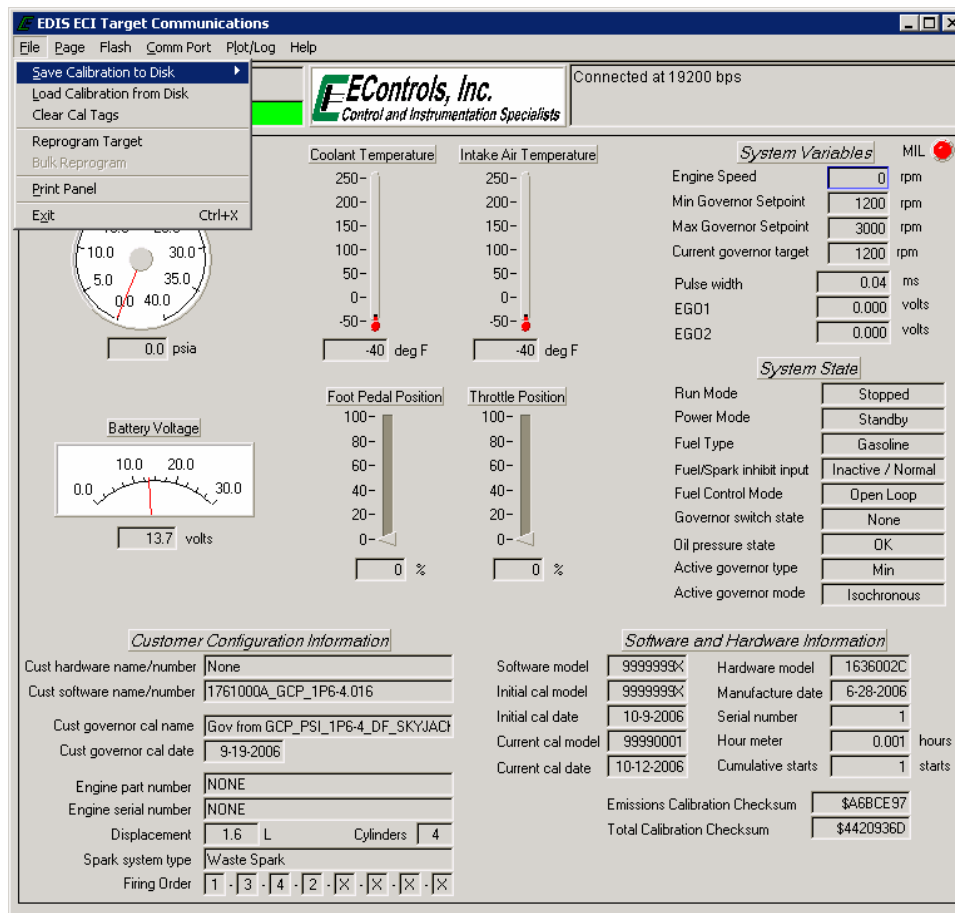
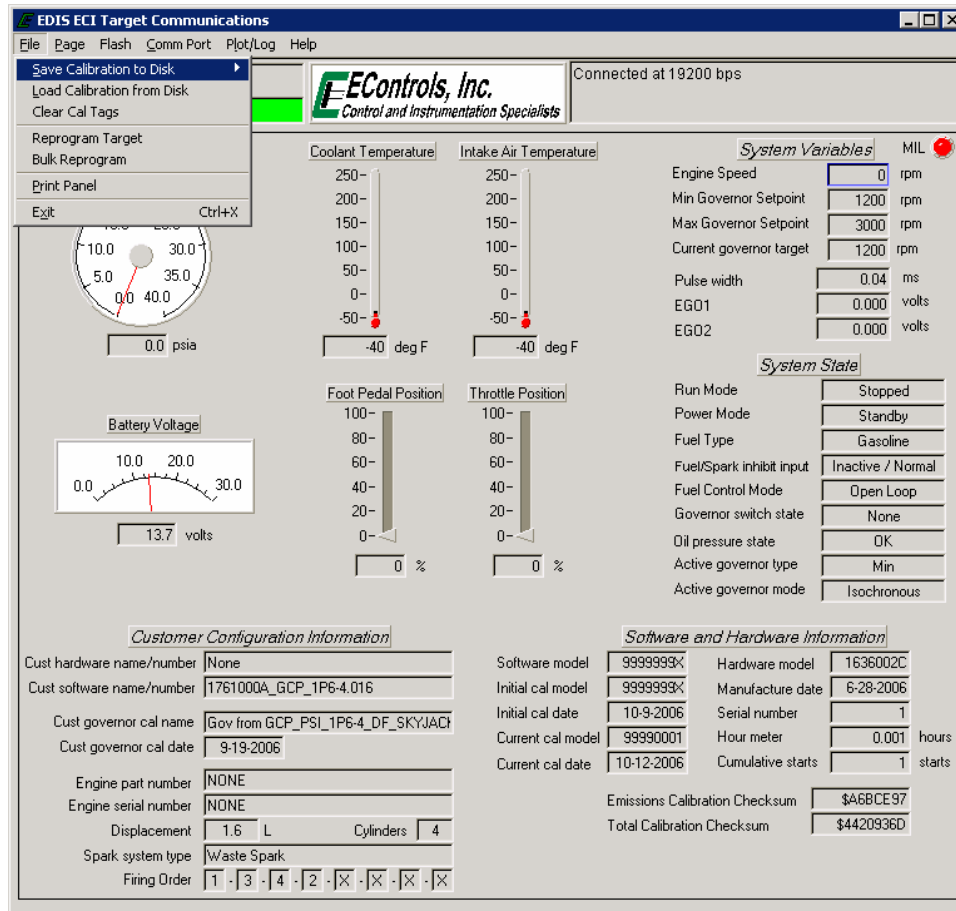

Figure 1: EDIS File Menu (Bulk Reprogram Disabled)
Figure 2: EDIS File Menu (Bulk Reprogram Enabled)
The 'Bulk Reprogram' feature is included in all EControls Display Interface Software (EDIS) installations. This feature is initially disabled as shown in Figure 1. In order to enable the bulk reprogramming functionality, for use through the PC display software, a configuration file (*edis_bulk_reprogram.dat*) must reside in the root directory of the PC display software directory (i.e. c:\GCP_dis for the GCP platform). A Microsoft Excel based software configuration utility is available from EControls Inc. to automatically generate this file (see section 4 *Configuration* for details on how to configure the software). If the *edis_bulk_reprogram.dat* file exists in the root directory the 'Bulk Reprogram' feature will be enabled and the menu selection will be enabled through the File menu of EDIS. Figure 2 shows verification that the 'Bulk Reprogram' function is enabled.
- Launch EDIS by selecting *Start Menu*→*Programs*→*EDIS_Dis* or by selecting a *EDIS_Dis* shortcut icon, enter a valid password and select *File*→*Bulk Reprogram* (see Figure 2).